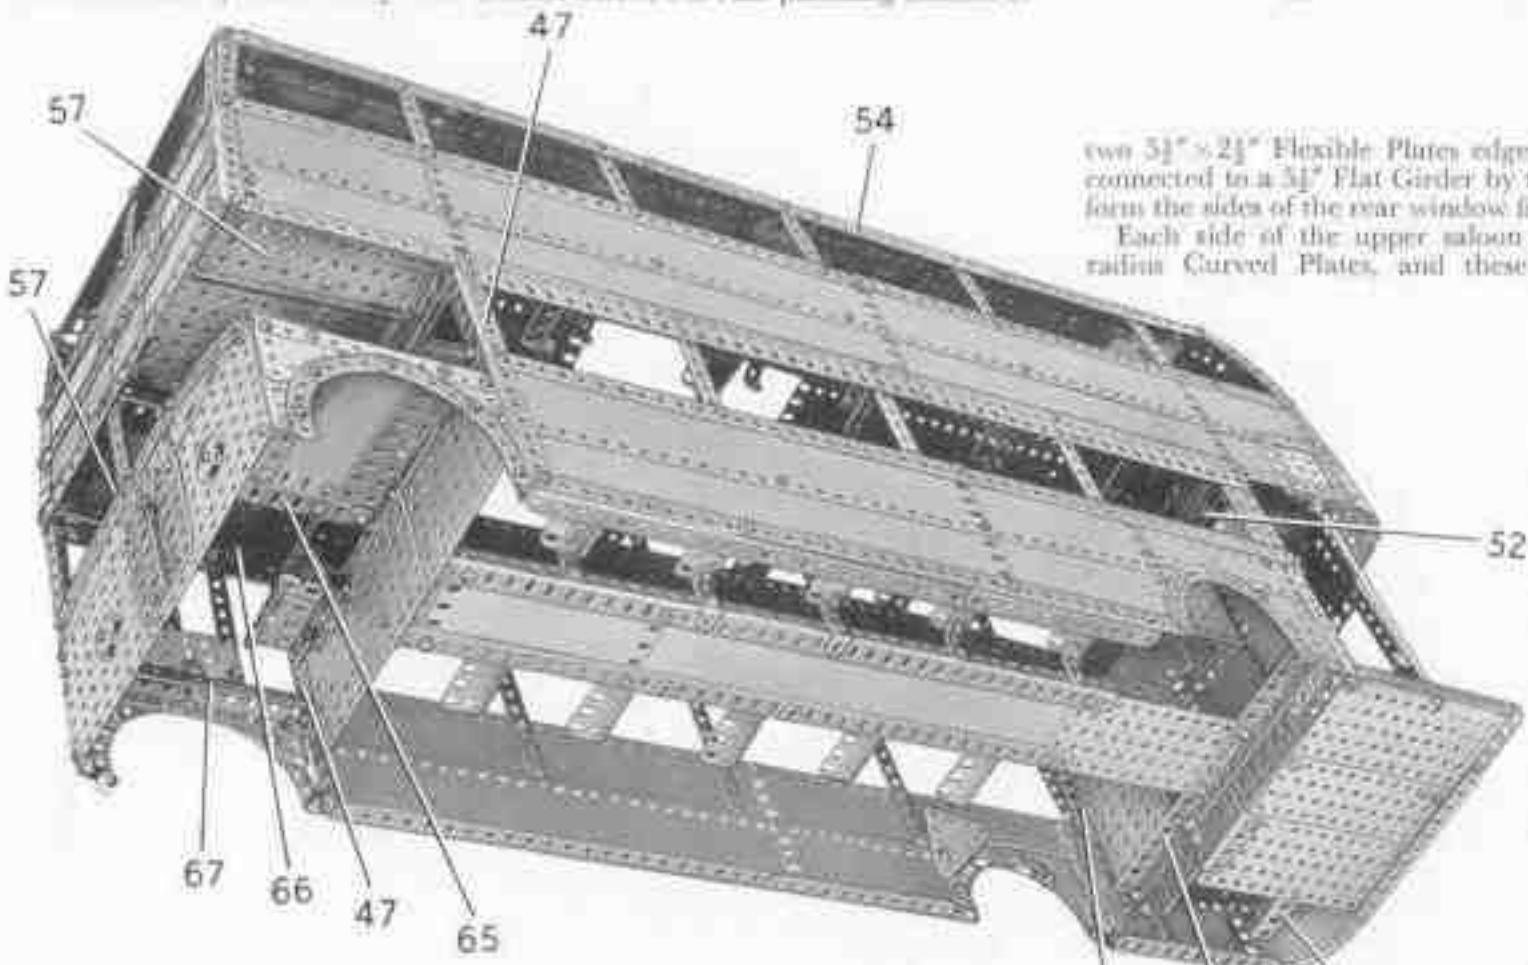

FIG. 7
The side seen in Fig. 8 consists of two $12\frac{1}{2}\times 2\frac{1}{2}$ " Strip Plates and four $5\frac{1}{2}\times 2\frac{1}{2}$ " Flexible Plates, with a $5\frac{1}{2}\times 1\frac{1}{2}$ " Flexible Plate and a $3\frac{1}{2}\times 2\frac{1}{2}$ " and a $2\frac{1}{2}\times 1\frac{1}{2}$ " Triangular Flexible Plate over the rear wheel arch. The Plates are fixed to a $7\frac{1}{2}$ " Angle Girder (47) at the front, and are edged along the top by two $12\frac{1}{2}$ " Strips and a $3\frac{1}{2}$ " Strip. The lower edges are strengthened by a $12\frac{1}{2}$ " Strip, a $5\frac{1}{2}$ " Strip and a $3\frac{1}{2}$ " Angle Girder (48), with a $12\frac{1}{2}$ " and a $5\frac{1}{2}$ " Angle Girder bolted to the inside (Fig. 7). A $9\frac{1}{2}$ " Angle Girder (49) is fixed vertically to the side, and to it are bolted a $4\frac{1}{2}\times 2\frac{1}{2}$ " Flexible Plate and a $3\frac{1}{2}$ " Flat Girder. The window divisions are $12\frac{1}{2}$ " Strips, each of which overlaps the side by four holes. These Strips are connected by three $9\frac{1}{2}$ " Flat Girders. A $2\frac{1}{2}$ " Angle Girder is bolted along the top row of holes in the Flat Girders, on the inside, starting at the Girder (49) so that it overhangs the Girder (47) by three holes.
The sides are connected at the front by two $5\frac{1}{2}\times 3\frac{1}{2}$ " Flat Plates overlapped three holes and edged at the top by a $9\frac{1}{2}$ " Strip. The Flat Plates are fixed to the Girders (47), and a $9\frac{1}{2}$ " Angle Girder (50) is bolted between their top ends. A vertical $5\frac{1}{2}\times 1\frac{1}{2}$ " Flexible Plate is attached to the centre of the Girder (50) and to the Flat Plates. At the rear the sides are connected by $9\frac{1}{2}$ " Angle Girders (51) and (52) (Fig. 7), bolted to the Girders (49).
A 5 $\frac{1}{2}$ " x 2 $\frac{1}{2}$ " Flanged Plate (57) (Fig. 7) is bolted to each side, and these are connected by a 5 $\frac{1}{2}$ " x 3 $\frac{1}{2}$ " Flat Plate and a 5 $\frac{1}{2}$ " x 2 $\frac{1}{2}$ " Flat Plate. At the rear a 9 $\frac{1}{2}$ " Flat Girder (58) is bolted between the top ends of the Girders (49) and a 3 $\frac{1}{2}$ " x 2 $\frac{1}{2}$ " Flanged Plate is fixed between this Flat Girder and the rear panelling. Two 4 $\frac{1}{2}$ " x 2 $\frac{1}{2}$ " Flexible Plates secured to the Flanged Plate provide a cover over the boarding platform. A 4 $\frac{1}{2}$ " Angle Girder is fixed to the centre of the Flat Girder (58).
Rear Panelling and Boarding Platform Figs. 7, 8 and 10
The platform floor is formed by a 3 $\frac{1}{2}$ " x 3 $\frac{1}{2}$ " and two 5 $\frac{1}{2}$ " x 2 $\frac{1}{2}$ " Flat Plates edged by 5 $\frac{1}{2}$ " Angle Girders as shown (Figs. 7 and 10). A built-up flat girder, made from a 7 $\frac{1}{2}$ " and a 2 $\frac{1}{2}$ " Flat Girder, is bolted to a 8 $\frac{1}{2}$ " Strip fixed across the Girders (49) and is connected to the floor by a Girder Bracket.